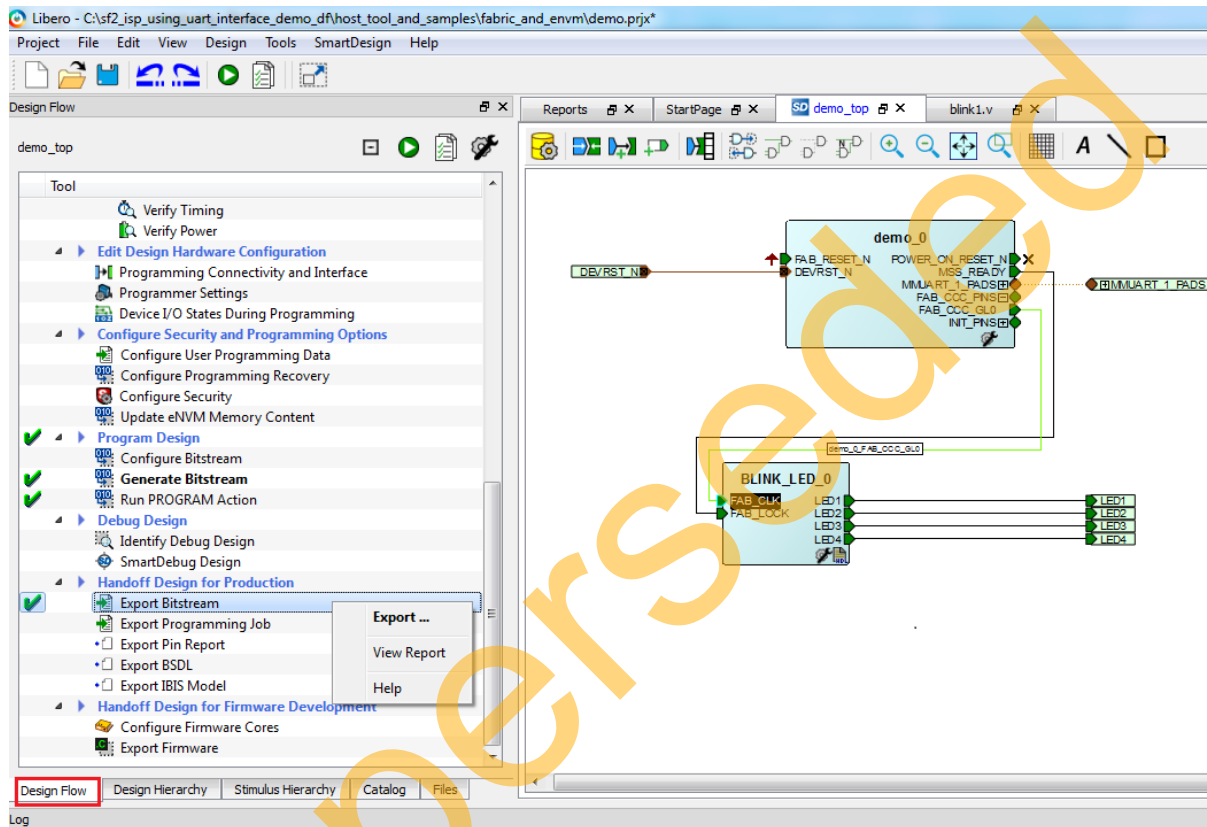
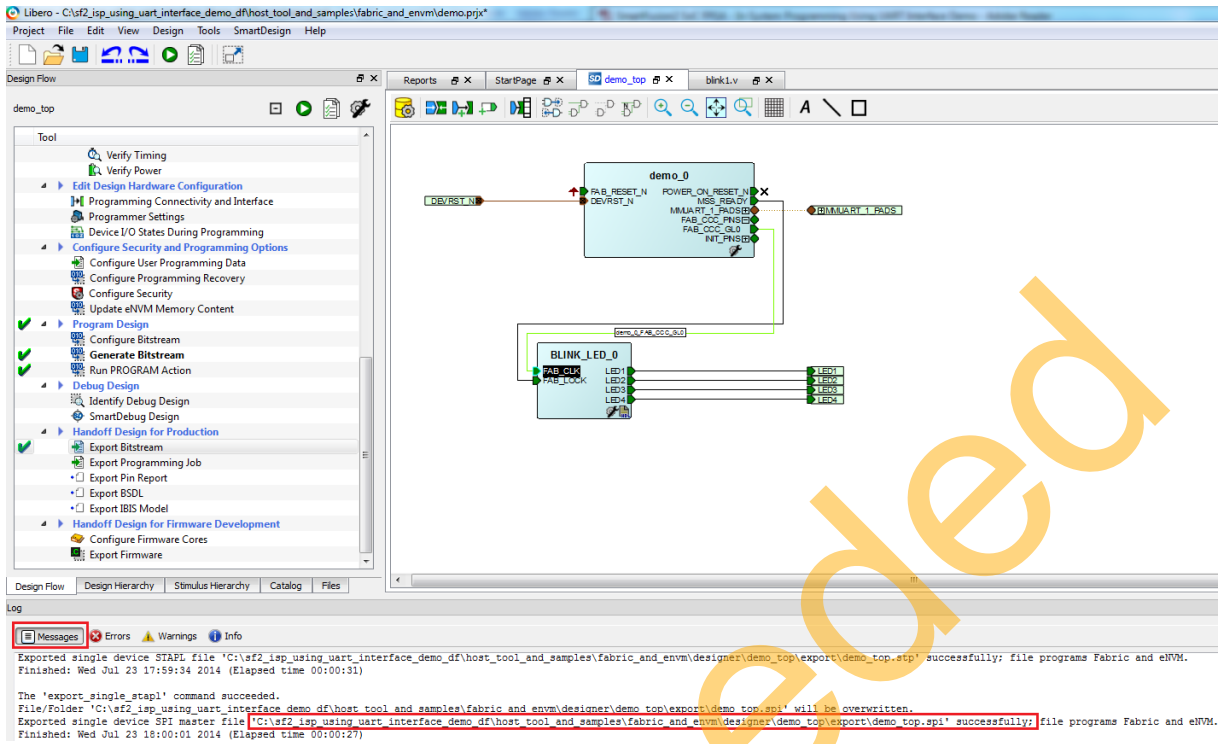

Figure 19 • Configuring Export Bitstream
Figure 21 • .SPI File Location
5. Double-click **Export Bitstream** under **Handoff Design for Production** in the **Design Flow** tab to generate the `.spi` file (Figure 19 on page 25). Figure 21 shows the `.spi` file location in **Messages** tab.